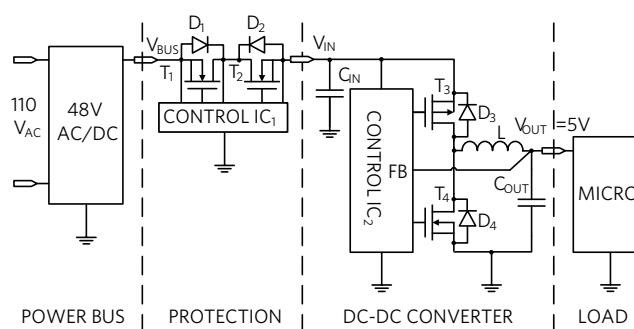

Figure 28. Typical Electronic System with Protection
*Figure 28* shows a typical system protection scheme around the smart load, for example, a microprocessor. A DC-DC converter—complete with control ( $IC_2$ ), synchronous rectification MOSFETs ( $T_3$ ,  $T_4$ ), associated intrinsic diodes ( $D_3$ ,  $D_4$ ), and input and output filter capacitors ( $C_{IN}$ ,  $C_{OUT}$ )—powers the microprocessor. A voltage surge from the 48V power bus ( $V_{BUS}$ ), if directly connected to  $V_{IN}$ , would have catastrophic consequences for the DC-DC converter and its load. For this reason, front-end electronic protection is necessary. Here the protection is implemented with a controller ( $IC_1$ ) that drives two discrete MOSFETs,  $T_1$  and  $T_2$ . Some control scheme designs use discrete components or a CPLD/microcontroller.